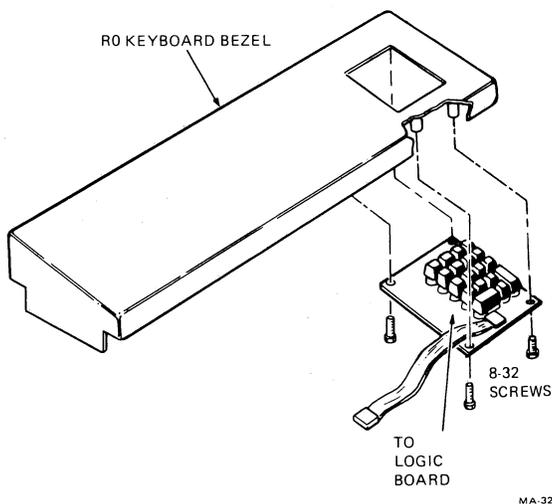

Fig. 21-TELEPRINTER 1000 RO Keypad Removal and Installation
- (a) Reconnect the appropriate cable connectors to the new keypad (Figure 21 and foldout). Place the pad on the bezel and secure with four (8-32) screws.